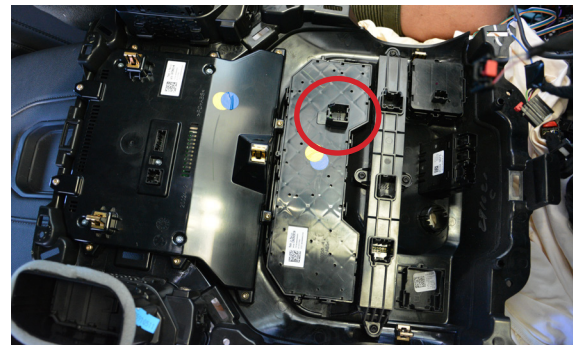

Figure 1
- The Blue CAN BUS (CAN1-H) wire needs to be connected to the factory radio plug (**Figure 1**). Connect the Blue wire to the Green wire, solder and insulate (**Figure 2**).
- The Orange (IR), Green (REVERSE) & Purple (REAR 12V OUT) are also **not used** and need to be insulated.